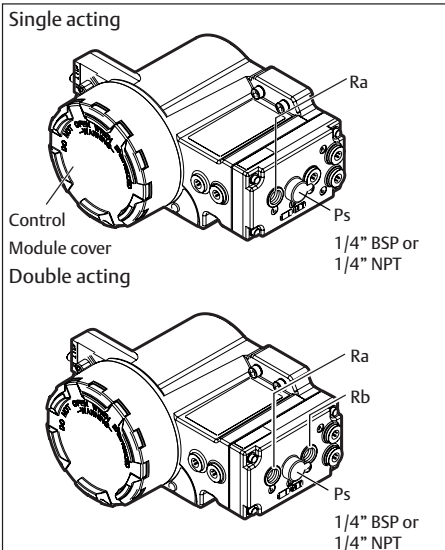

Fig. 3.1 Pneumatic connections
- 6 The exhaust ports Ra and Rb on the module (see figure 3.1) are shipped from the factory with transport protection.